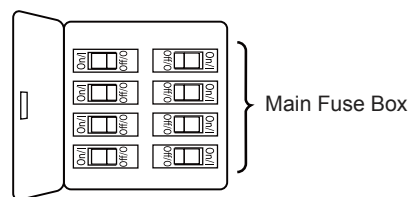
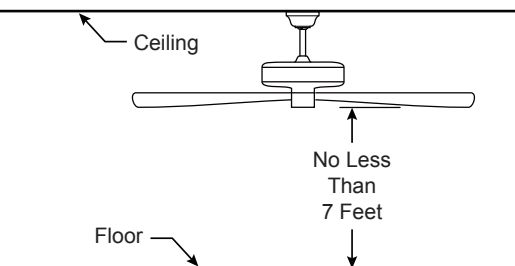
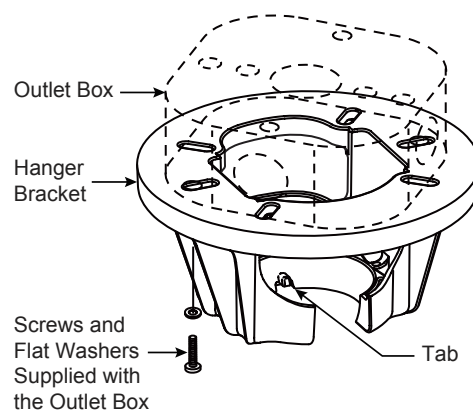

Figure 1
Figure 2
Figure 3
Your new ceiling fan will require a grounded electrical supply line of 120 volts AC, 60 HZ, 15 Amp Circuit. Electrical code requires use of a fan-rated outlet box to support the extra weight and motion associated with a ceiling fan. A fan-rated box will be labeled as such and typically supports up to a 70lb ceiling fan. Fan-Rated Outlet Boxes vary in ratings and design. Ensure the ratings of your ceiling fan outlet box meet the requirements for the ceiling fan being installed. Figure 1, Figure 2 and Figure 3 depicts different structural configurations that may be used for mounting the outlet box.
Low profile box (Figure 1)
Deep box (Figure 2)
Deep box with brace (Figure 3)
1. Remove the hanger ball portion from the downrod/hanger ball assembly by loosening the set screw in the hanger ball until the ball falls freely down the downrod. Remove the pin from the downrod, then remove the hanger ball. Retain the pin and hanger ball for reinstallation in Step 6. (Figure 1)
2. Remove the hairpin clip and clevis pin from the bottom of the downrod. Retain the pin and clip for reinstallation in Step 4. (Figure 2)
3. Loosen the two set screws and locking nuts in the downrod support of the motor assembly. Route the black, white and blue wires through the downrod. (Figure 3)
To avoid possible fire or shock, be sure electricity is turned off at the main fuse box before hanging. (Figure 1)
The fan must be hung with at least 7' of clearance from floor to blades. (Figure 2)
- ☐ 1. Securely attach the hanger bracket to the outlet box using the outlet box screws and washers supplied with the outlet box. (Figure 3)
NOTE: Outlet box screws pass through slotted holes of the hanger bracket. (Figure 3)
- ☐ 3. Carefully lift the fan and seat the downrod/hanger ball assembly onto the hanger bracket that was just attached to the outlet box. (Figure 4) Be sure the groove in the ball is lined up with tab on the hanger bracket. (Figure 3)
1. To set the code on receiver unit, slide dip switches to the same positions as set on the remote. (Figure 1)
To avoid possible electrical shock, be sure electricity is turned off at the main fuse box before wiring. (Figure 2)
2. Slide the receiver into the hanger bracket before wiring as shown in figure 3.
1. Assemble canopy by rotating key slot in canopy over shoulder screw in hanger bracket, taking care not to pinch the wires. Tighten shoulder screw. Fully assemble and tighten second shoulder screw that was previously removed. (Figure 1)
2. Securely attach and tighten the canopy screw cover over the shoulder screws in the hanger bracket utilizing the key slot twist-lock feature. (Figure 2)
1. Position the blade over the blade holder with the threaded posts showing. Make sure the bottom edge of the blade is fully seated against the blade holder. With a phillips screwdriver, tighten 3/16"-24 truss head screws with spring washer/flat washer and fiber washers to secure the blade to the blade holder. (Figure 1)
- ☐ **2.** Secure the blade holders to the top hub of the motor assembly using the 1/4"-20 screws. (Figure 2)
- ☐ **1.** Remove the three screws in the adaptor plate at the bottom of the motor assembly. Retain the screws for Step 3. (Figure 1)
- ☐ **2.** Connect the 2 single pin connectors from the light kit assembly to the 2 single pin connectors from the motor assembly. (Figure 2)
3. Assemble the light kit assembly to the adaptor plate of the motor assembly using the previously removed screws and securely tighten all three screws. (Figure 3)
1. **IMPORTANT:** Using a full range dimmer switch (not included) to control fan speed will damage the fan. To reduce the risk of fire or electrical shock, do not use a full range dimmer switch to control the fan speed. (Figure 1)
2. Restore electrical power to the outlet box by turning the electricity on at the main fuse box. (Figure 2)
3. To make fan operational, install 23A/12V battery (included) in hand-held remote transmitter, with fan power off. Then follow the remote code setting process. (If not used for long periods of time, remove battery to prevent damage to transmitter). Store the remote away from excessive heat or humidity. (Figure 3)